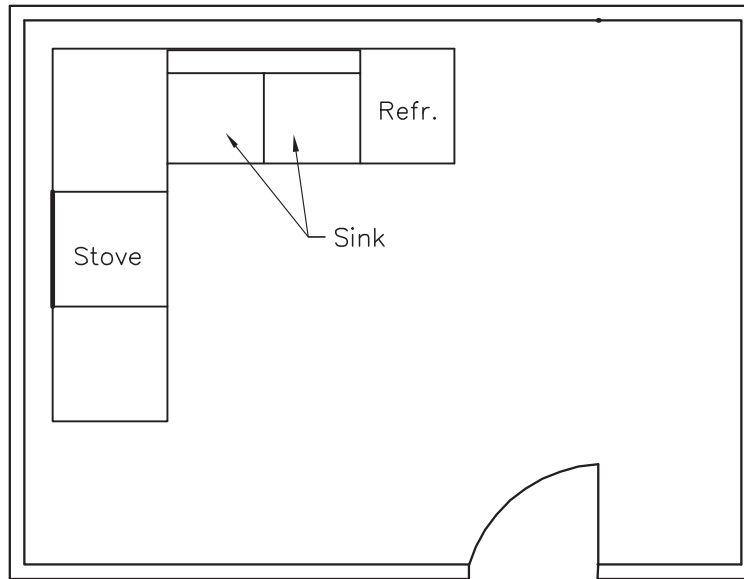
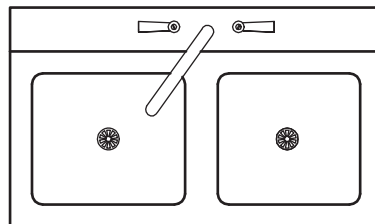

Fig. 13-7
Fig. 13-8
3. Draw the kitchen floor plan shown in Fig. 13-7. Then zoom in on the kitchen sink. Edit the sink to include the details shown in Fig. 13-8. Save the file as **kitchen.dwg**.